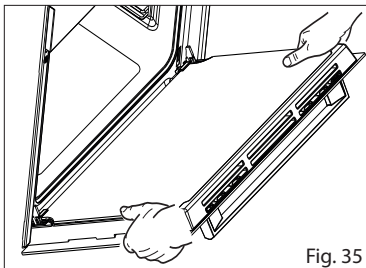

Fig. 35
- Hold the door as shown in fig. 35.